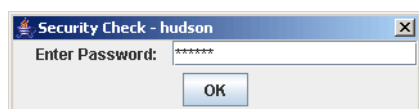

Figure 21-27 SANsurfer - Security check
5. In Figure 21-27, enter the SANsurfer password and click **OK**. The default SANsurfer password is config.